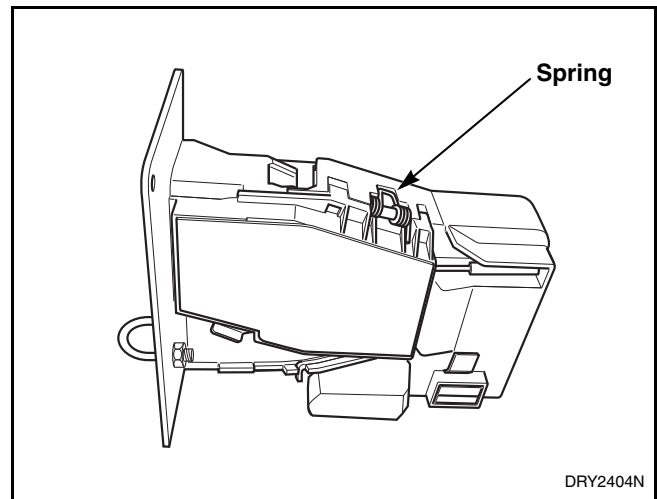

Figure 87
**Coin Drops with New-Style Spring (refer to Figure 87):**